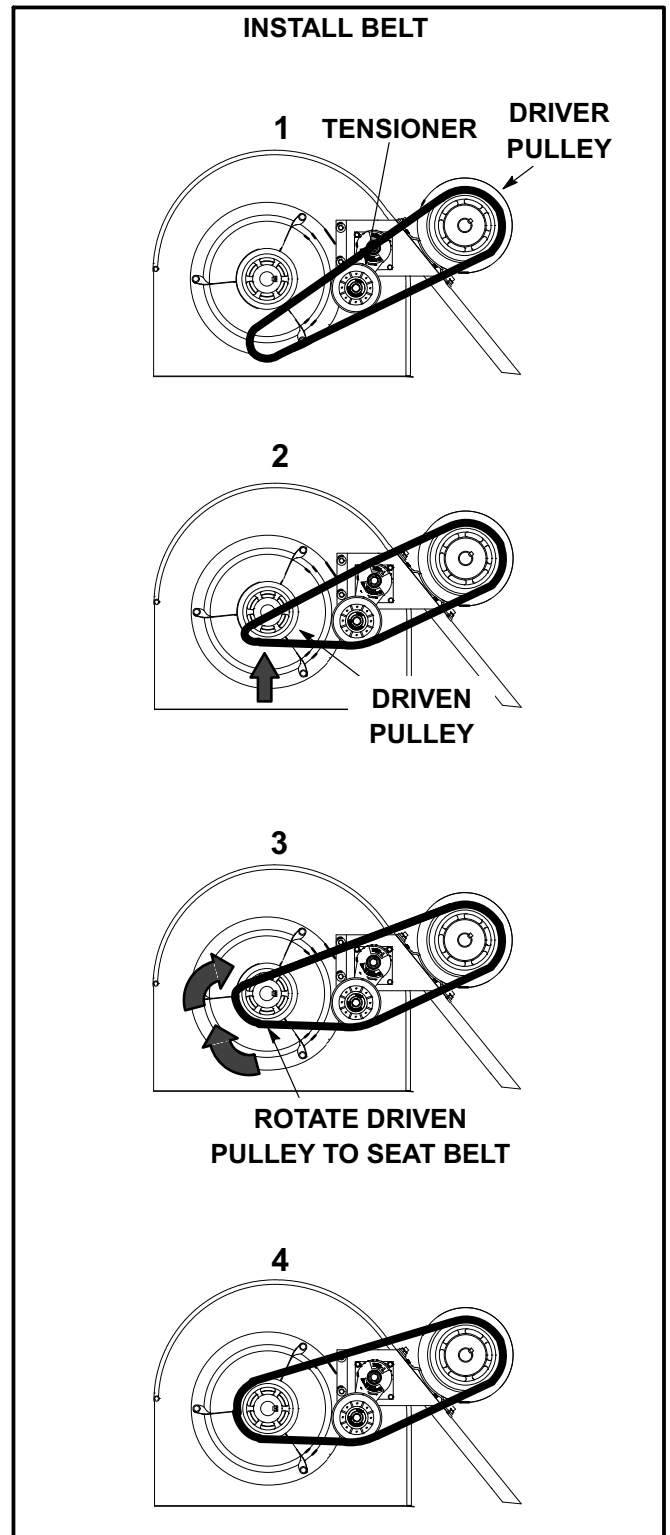

FIGURE 12
- 6- Replace blower belt. See figure 12.